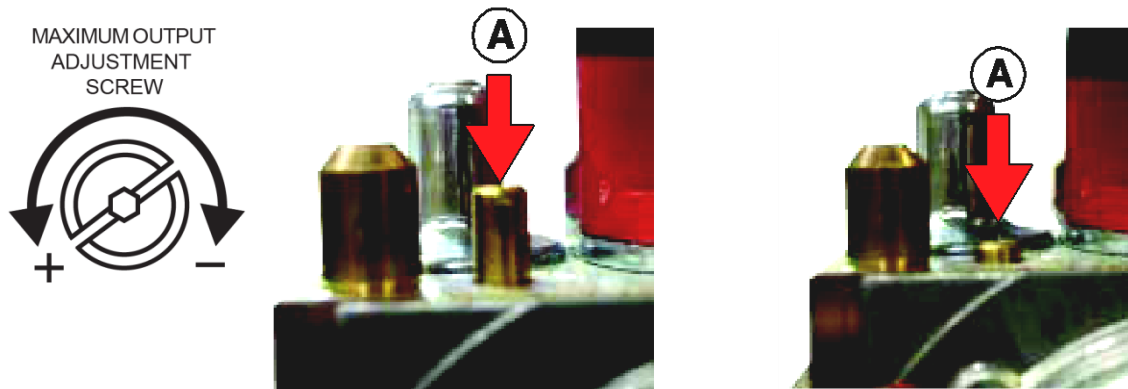

Figure 4-24: Maximum Output Adjustment Screw
After setting the maximum gas output for each valve (section 4.33.2), refer to Figure 4-24, above, to locate the Minimum Gas Adjustment screw (B) on each valve. Follow the instructions below to set the minimum gas output level for each valve.
1. Tighten the maximum adjustment screw "A" (see Figure 4-24) in a clockwise direction until it is fully abutted into the gas valve body, then slacken back out for nine (9) turns.